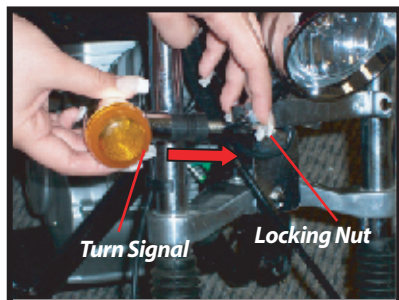

Fig. 3
**Once the GAS CHOPPER SCOOTER™ has been assembled and battery has been charged, test the turn signals to ensure that they are on the correct sides. (Fig. 3)*